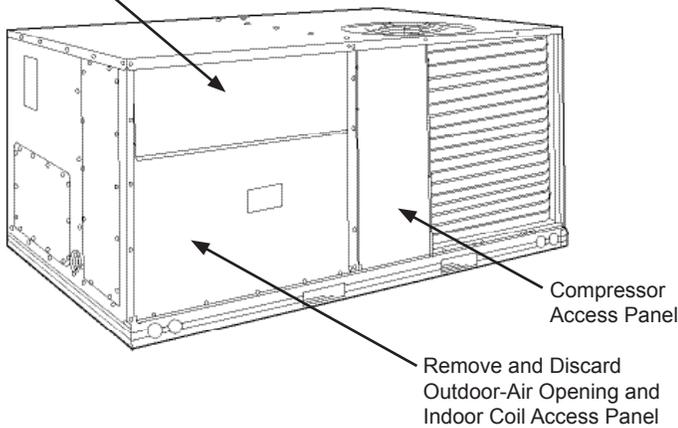

Fig. 3 - Panel Reference
- Remove filter access door and lower panel from unit, Fig. 3. The lower panel can be discarded.